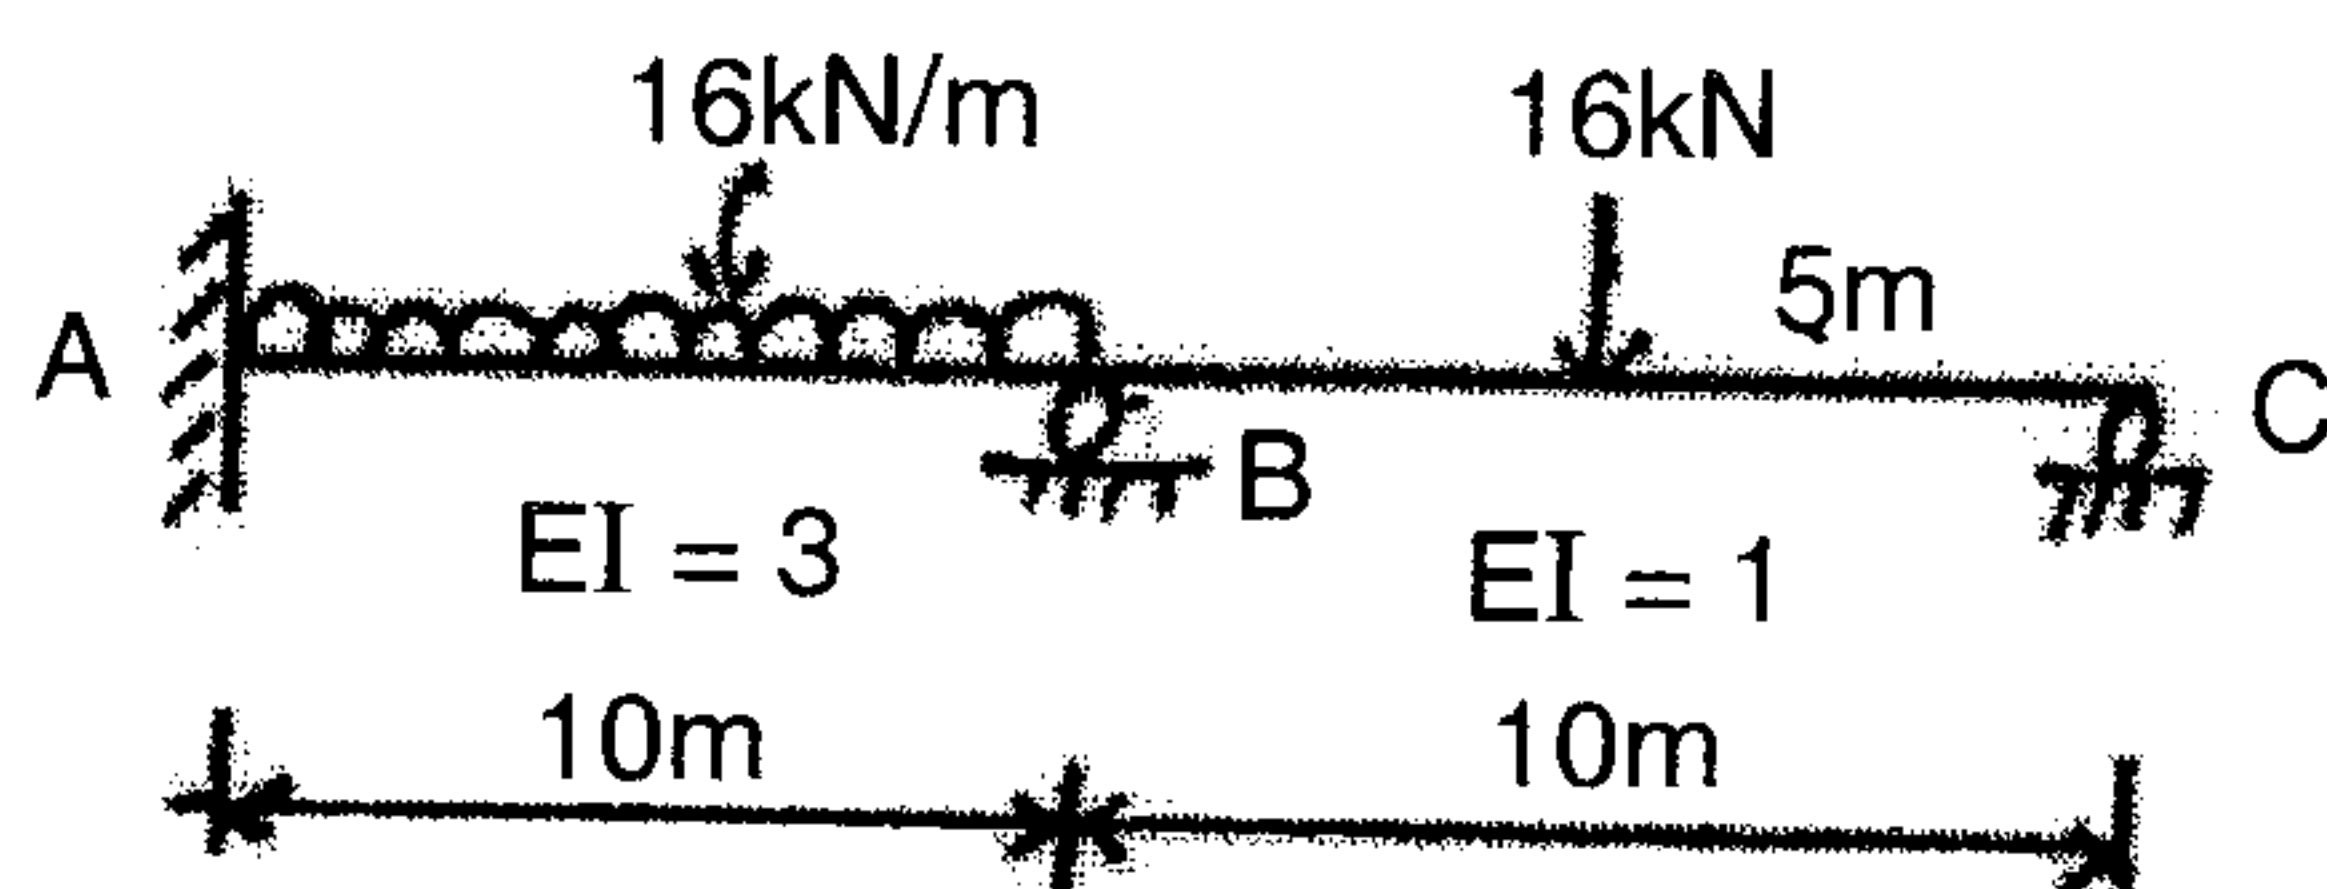

Fig. 3
9. Analyse the continuous beam shown in Fig. 3 by force method. Draw SFD and BMD.